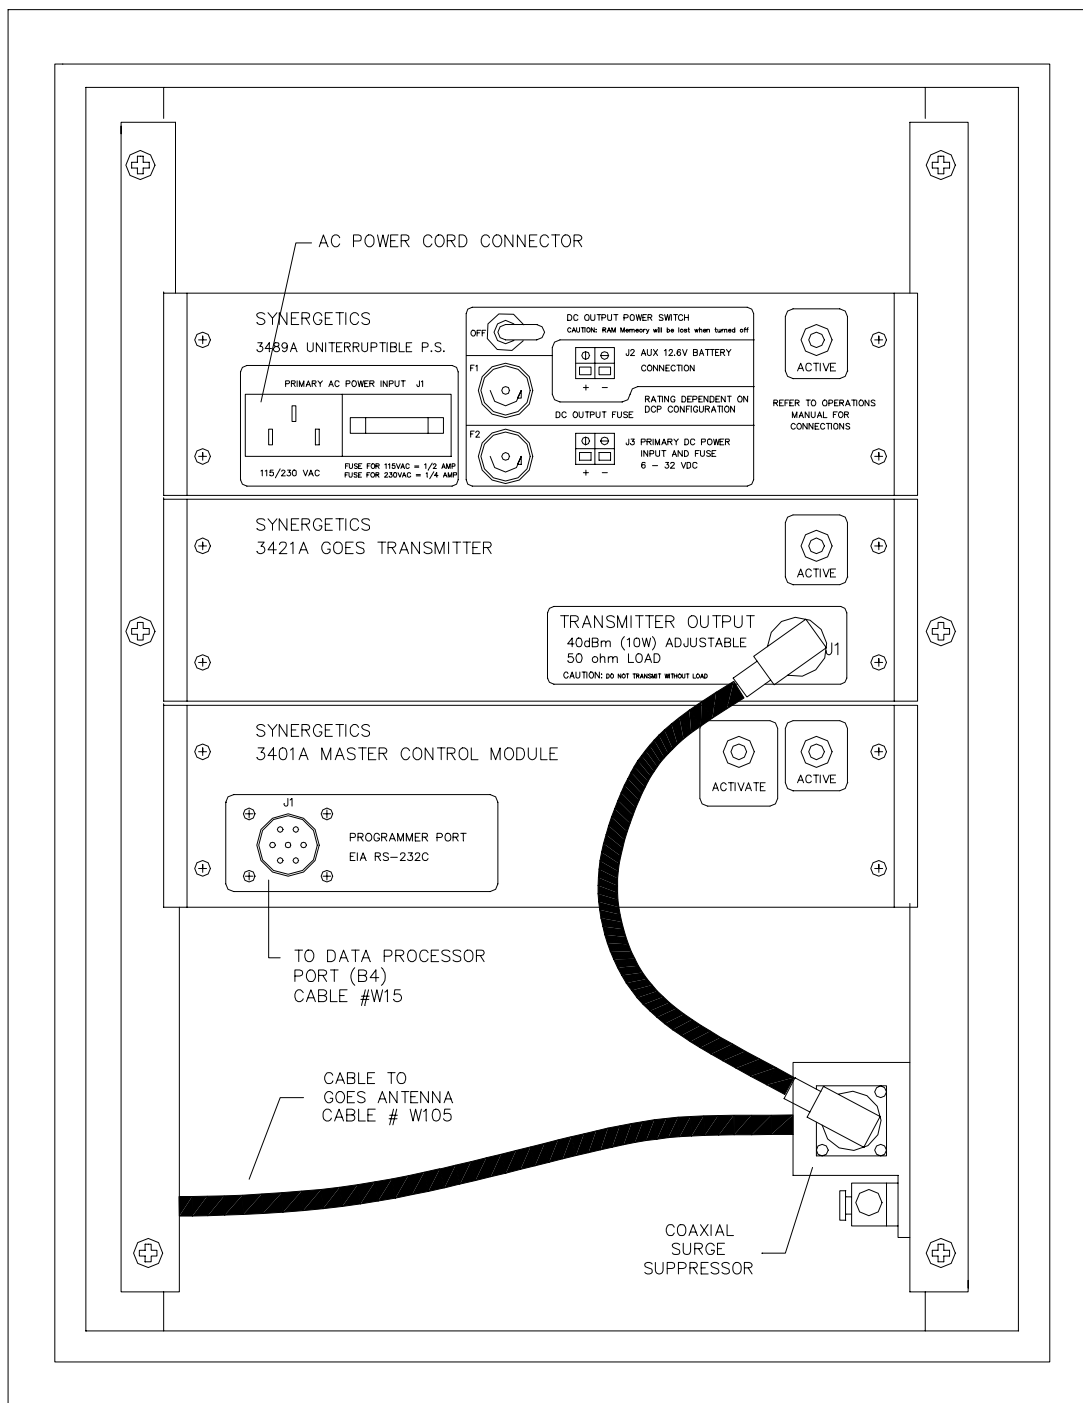

Figure 8-8 GOES Assembly Front Panel
The GOES Communications System consists of a GOES Assembly and a Crossed Yagi antenna. The GOES Assembly is located inside the shelter below the breaker panel in a white NEMA enclosure. As illustrated in Figure 8-8, the GOES Assembly consists of four components: the 3489A Uninterruptible Power Supply, the 3421A GOES Transmitter,
2. Turn off the *DC OUTPUT POWER* switch on the front panel of the 3489A Uninterruptible Power Supply and remove the AC power cord from the front panel of the unit (see Figure 8-8).
2. Turn off the DC power switch on the front panel of the 3489A Uninterruptible Power Supply (see Figure 8-8).
2. Turn off the *DC OUTPUT POWER* switch on the front panel of the 3489A UPS (see Figure 8-8).